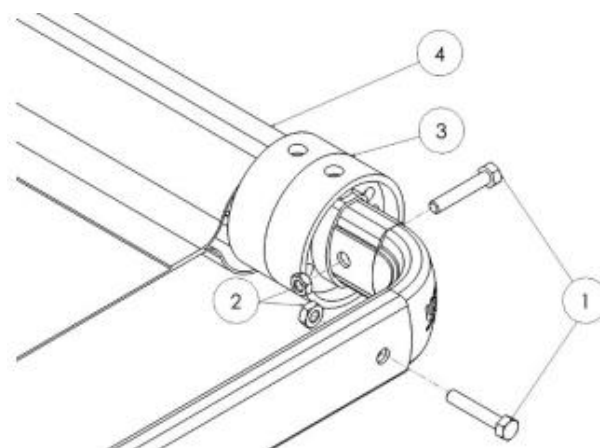

Figure 4.11
Secure the 90-degree corners to the upper arms and cross tube using 5/16" x 1-3/4" hex bolts (1) and 5/16" hex nuts (2). (Figure 4.11)